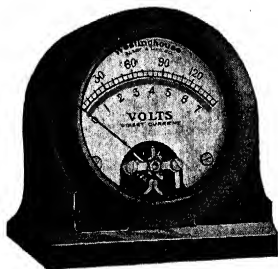

FIG. 262. Westinghouse voltmeter with two scales.
**Prob. 24-10.** If the two-range voltmeter of Fig. 262 has a resistance of 100 ohms per volt on each of its scales, what is its resistance in each case?